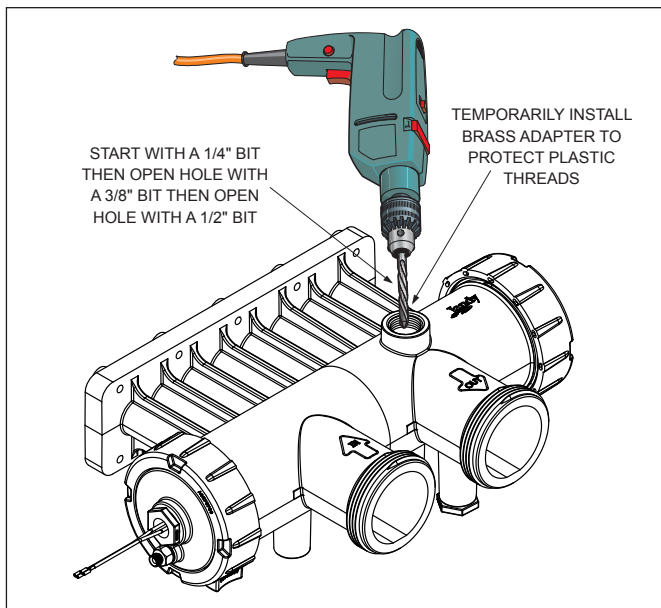

Figure 13. Drill Hole for Pressure Relief Valve
2. Using the countersink in the center of the blind hole as a guide, drill a 1/4 inch hole through the plastic. See Figure 13.